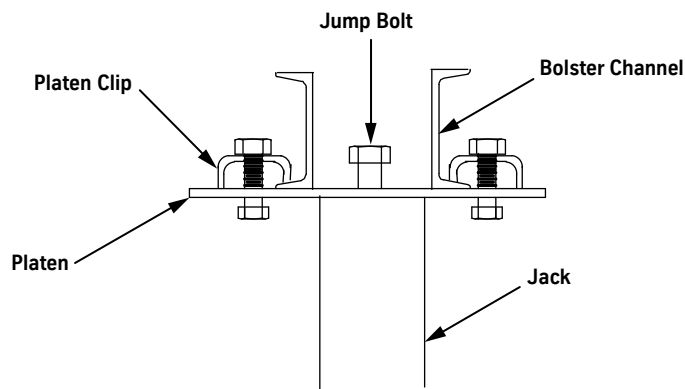

Figure 30 - Jump Bolt through Platen Plate
- e. Align the platen (as necessary), and tighten the platen clips to the bolster channels. See Figure 30.